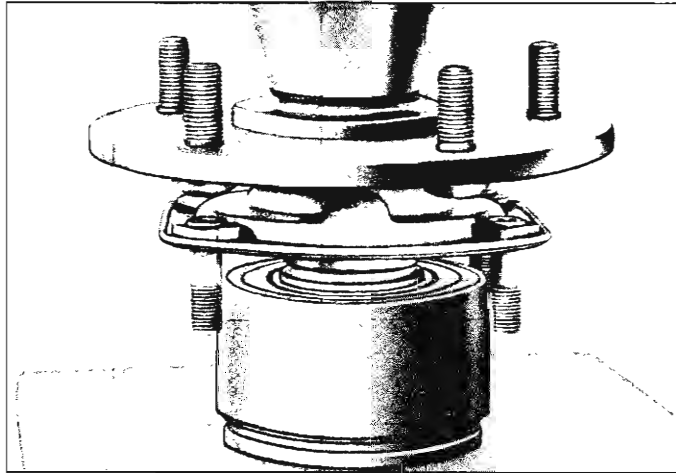

Fig. 5—Installing Axle Shaft Bearing
4. Install new bearing or re-sealed old bearing, using Tool J-6661 (fig. 5). Bearing bottoms on shaft against shoulder.